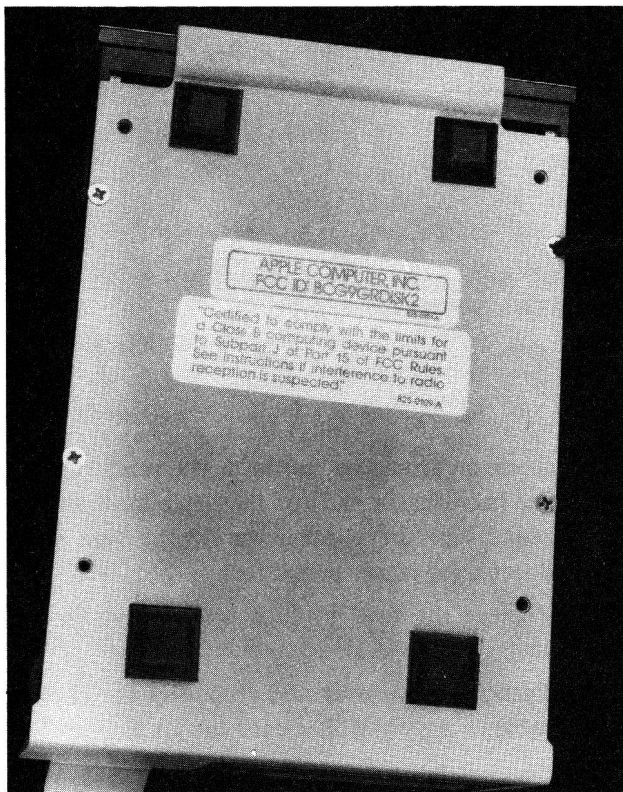

Fig. 8-22. Remove the four silver screws from the baseplate.
2. Remove the four silver Phillips head screws on the baseplate as shown in Fig. 8-22.